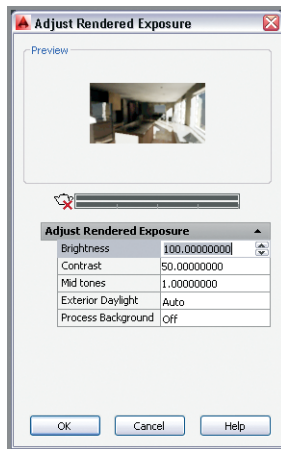

FIGURE 18.15
2. Select the ribbon's Render tab, and expand its Render panel. Select the Adjust Exposure tool. After a few moments, AutoCAD creates a preview that gives you a rough sense of the level of illumination in a rendered thumbnail image. As it appears dark, change the Brightness from **65** to **100** and press Tab. The preview brightens significantly (see Figure 18.15). Click OK to close the Adjust Rendered Exposure dialog box.